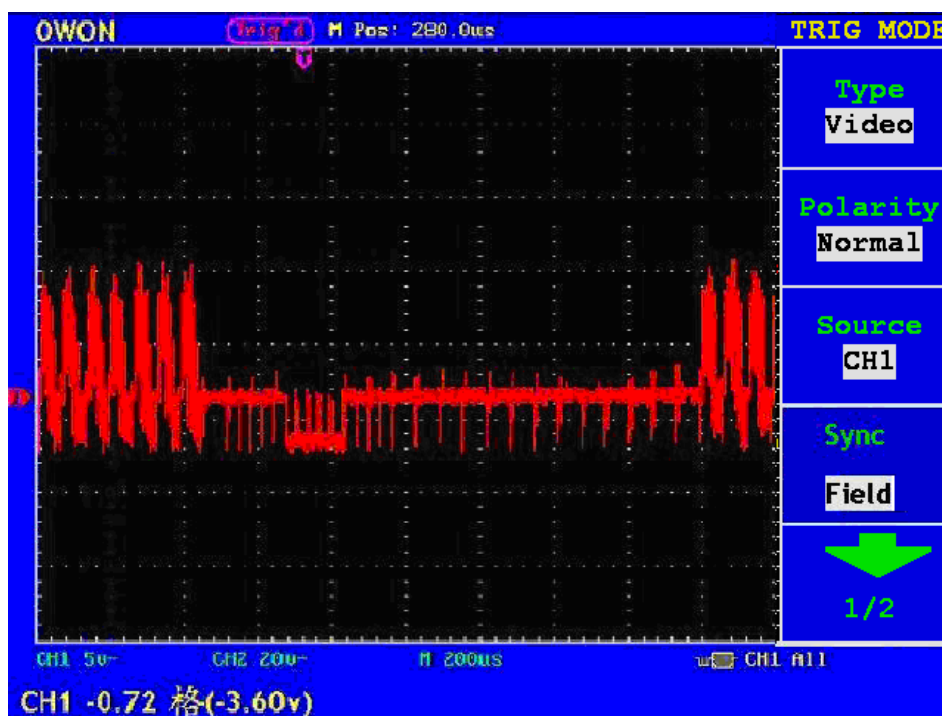

Fig. 41 Video field trigger Oscillogram
- 5、 Press F4 to choose synchronization as “Field” (refer to Fig.41)